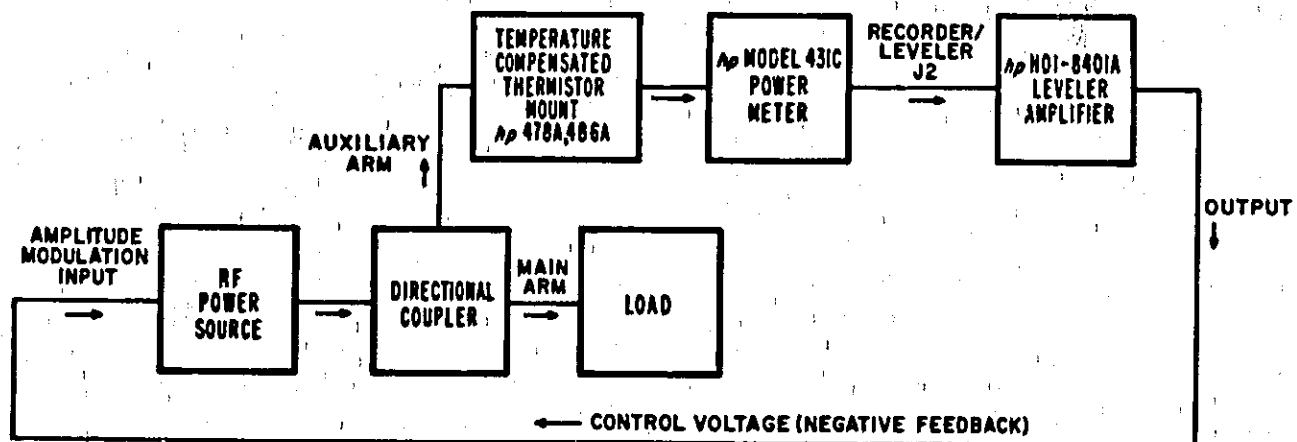

Figure 3-5. Output Power Leveling
**3-55. OUTPUT POWER LEVELING.** A block diagram of an output power leveling system is shown in Figure 3-5. The power meter is used as an element in a control circuit that maintains a constant power level at a particular point in the system. The thermistor mount, connected to the auxiliary arm of a directional coupler, senses a portion of the power incident upon the directional coupler. The power meter RECORDER/LEVELER output provides a DC voltage that is proportional to the power measured at the thermistor mount. This voltage can be directly applied to the power meter leveling input of one of the hp Model 690 Sweep Oscillators, or to the input of a leveler amplifier. At the